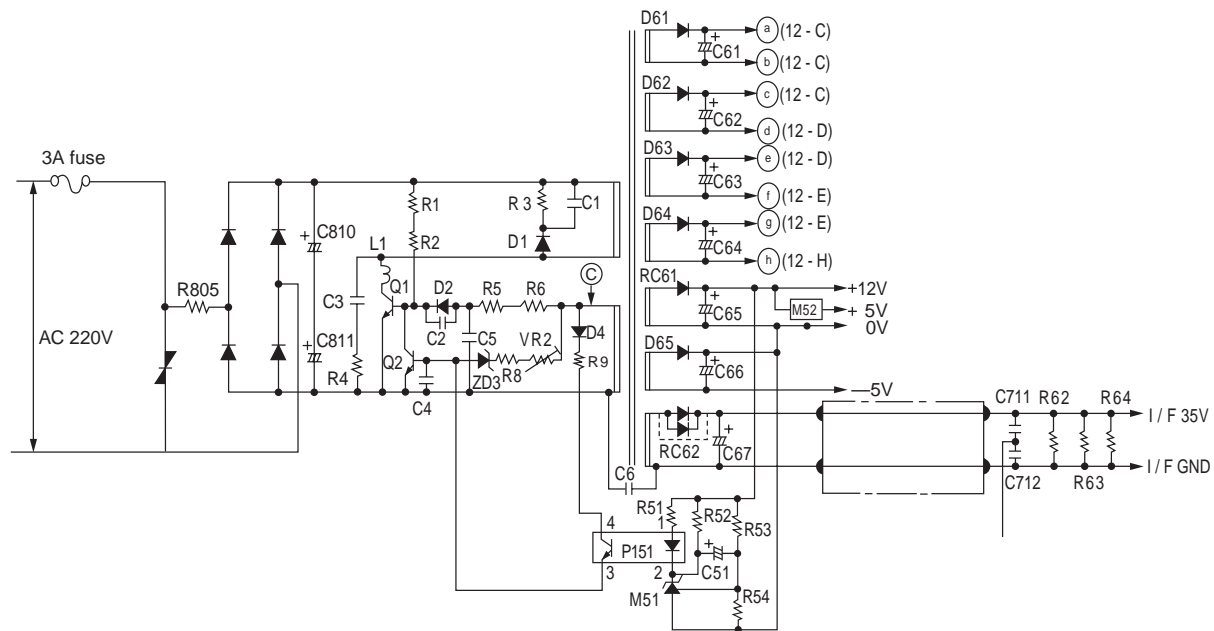

Fig. 4-1 Power circuit for P.W.B.
- (1) Disconnect connector of 3-pole (WHT, YEL, RED) lead wire connecting to compressor located at the lower part of electric parts box.
- (2) Set to compressor operation state (other than FAN mode) and press Start/stop switch of remote control.
- (3) If normal operation continues for more than 1 minute (LD303 lights), power module is considered normal.
- Fig. 4-1 shows the power circuit for P.W.B. and waveform at each point.